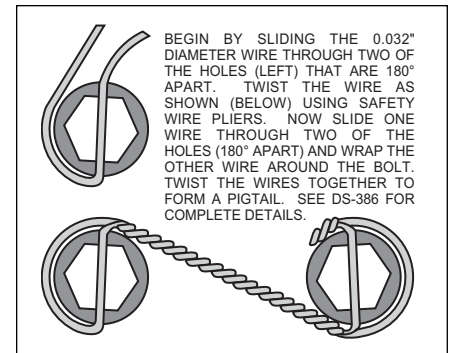

Figure 8. Safety Wire Diagram
•Slide the caliper mounting bracket kit assembly (1) onto the housing flange and then insert the axle assembly through the center hole of the caliper mounting bracket assembly (1). Align the bearing retainer (2) with the four holes inside the bracket assembly (1) and secure using the stock Original Equipment Manufacturer (OEM) bolts and nuts. Stock OEM hex nuts that retain the caliper mounting bracket assembly (1) and retainer (2) should be on the wheel side of the bracket. Apply red *Loctite*® 271 to the stock OEM bolt threads and torque to OEM specifications. Make sure the heads of the caliper mounting bracket assembly (1) insert nuts are **FACING OUTWARD TOWARDS THE WHEEL**.
•Align the correct hole pattern in the rotor (3) with the stud pattern on the axle flange. **NOTE:** Some OEM and after market axles come with stud sizes larger than 0.50" diameter. Verify stud size and have a qualified machine shop drill the bolt circle of the rotor to the correct stud size, if necessary. Slide the rotor (3) over the wheel studs covering the mounting bracket assembly (1) and against the axle flange face.
•WITH THE BLEED SCREWS POINTING UP, mount the caliper (4) over the rotor (3) and onto the caliper mounting bracket (1) using lock washers (5) and mounting bolts (6). View the rotor through the top opening of the caliper. The rotor should be aligned in the center of the caliper. If not, adjust the caliper by using 0.032 inch shims (7) by placing them between the caliper mounting bracket (1) and the caliper (7). Apply red *Loctite*® 271 to the mounting bolt threads (6), torque to 30 ft-lb. Safety wire the caliper mounting bolts (6) using standard 0.032 inch diameter stainless steel safety wire as shown in Figure 8. Please refer to Wilwood's data sheet DS-386 (available at www.wilwood.org/ds386.pdf) for complete safety wire installation instructions.
•Position the Wilwood disc brake pads (8) into the caliper (4) and fasten with cotter pin (9). Steel backing plate side of brake pad should face the caliper pistons.
•Before final installation of the wheel, install a couple of lug nuts and adjust the parking brake shoes outward (using a drum shoe adjustment tool available at your local auto parts store) while spinning the rotor/hat (3) until a slight drag is felt again the hat/drum.